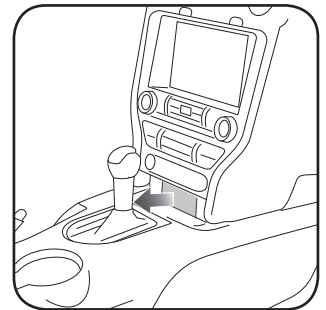

Fig. 1.5
7. Remove the plastic tray in front of shifter. Remove the plastic trim at the bottom of center dash panel. (Fig. 1.5)